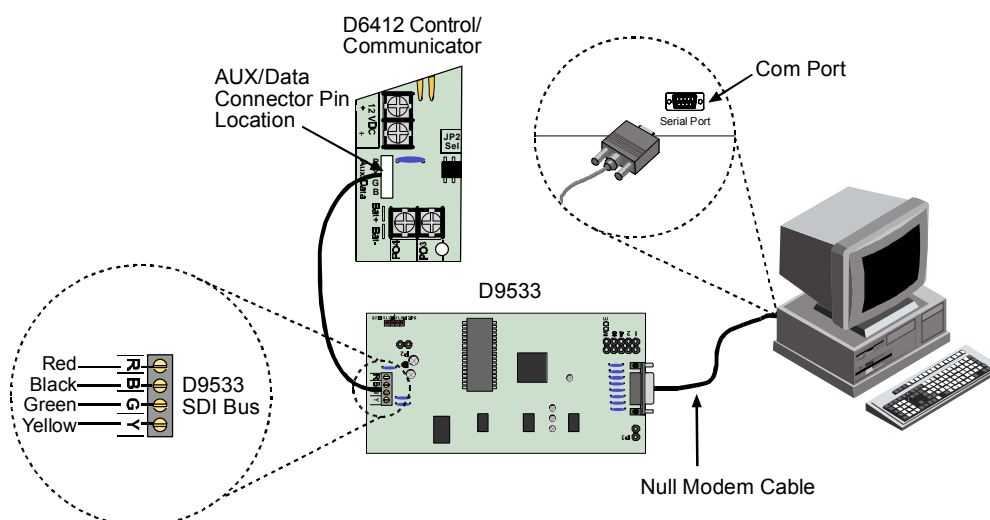

Figure 37: Creating a RAM IV Direct Connection
3. Wire the flying leads of the colored cable connector (included with D9533) to the D9533's SDI Bus terminals. Plug the connector end onto the D6412. See Figure 37 for details.